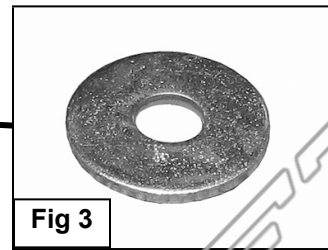

Fig 3
3. Select the passenger side front Mounting Bracket, **(Figure 2)**. Insert (1) 12-1.75mm x 120mm Hex Bolt with (1) 12mm ID x 32mm OD x 3mm Flat Washer and (1) 12mm Lock Washer through the Mounting Bracket. Place (1) 12mm Large Flat Washer onto the 12mm Hex Bolt and Bracket, **(Figure 3)**. Slide the rubber bushing onto the Hex Bolt and over the Washer. Make sure that the Large Washer is between the Mounting Bracket and the factory rubber bushing, **(Figure 2)**. Bolt the Bracket to the body mount with the supplied or factory hardware. Snug but do not tighten hardware at this time. **IMPORTANT:** On 05 and newer model years, the large washer on the factory body mount bolt is removable, (do not